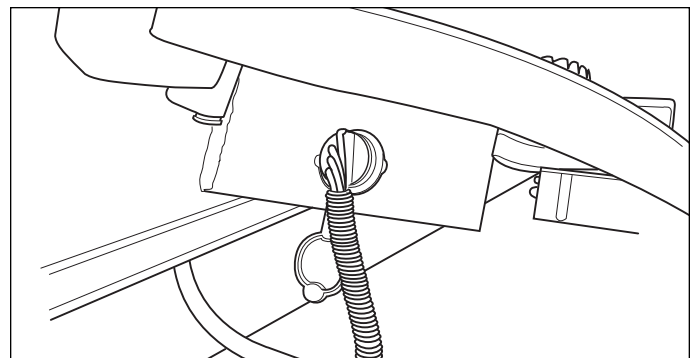

Figure 26. Attachment Electrical Connection
10. See Figure 26. Attach the electric chute rotator to the tractor attachment plug.
3. See Figure 26. Disconnect the attachment electrical connection.